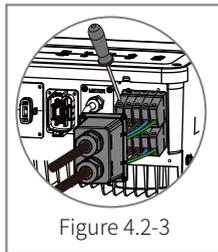

Figure 4.2-3
- **On-grid & backup connections:** Confirm that the on-grid is connected to the power grid and that the backup is connected to the loads and that the polarities (e.g. L1/L2/L3/N in sequence) are not reversed. Refer to figure 4.2-3.